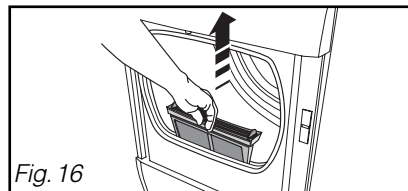

Fig. 16
– Remove it from its housing by pulling it upwards (Fig. 16).